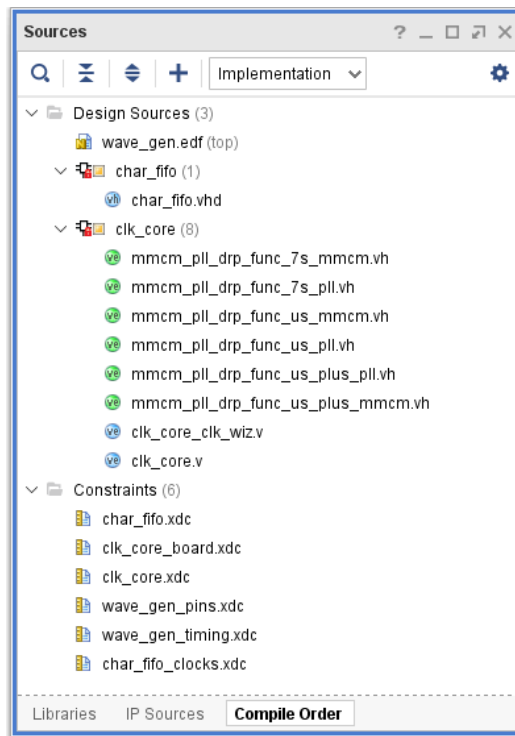

Figure 34: Compile Order
13. Select the Compile Order tab and select **Implementation** to see the order in which the design source files and constraints are processed (Figure 34.)